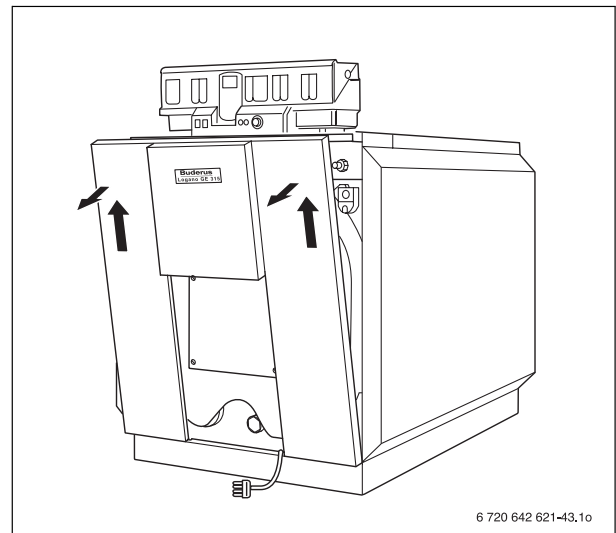

Fig. 55 Removing the front panel
- ▶ Slightly lift the front panel and remove by pulling forwards (Fig. 55).